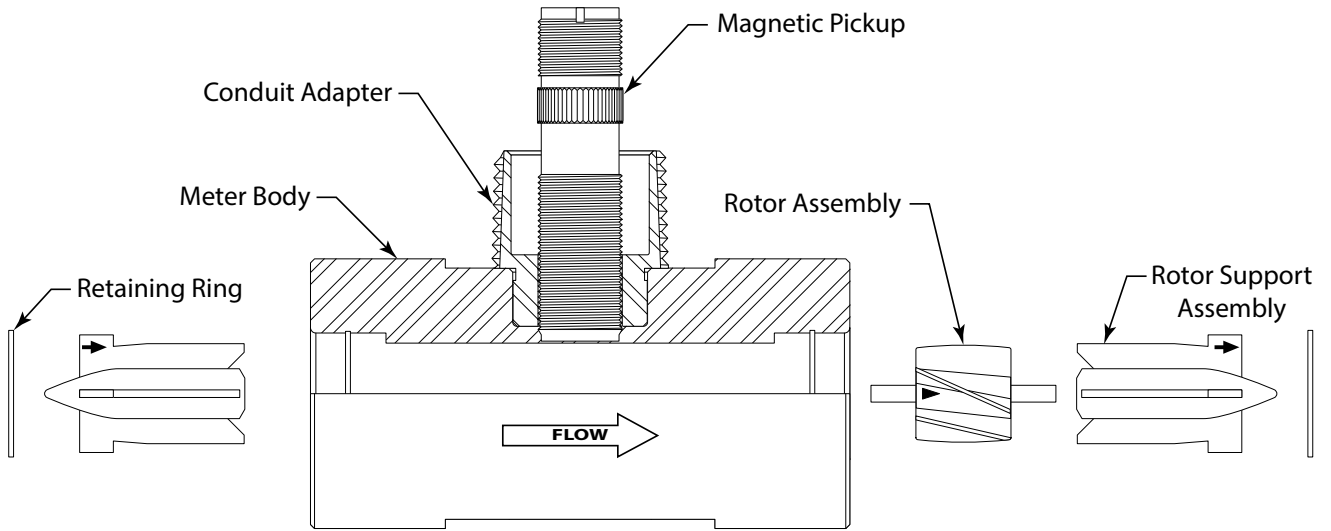
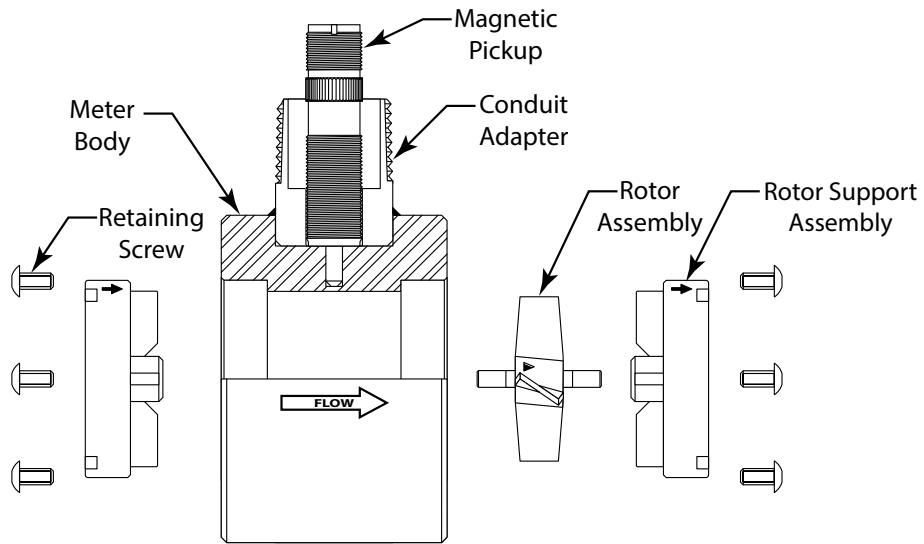

Figure 1: Relative positions of internal components for all QuikSert meter sizes BP131-038 through BP131-100
Figure 2: Relative positions of internal components for all QuikSert meter sizes BP132-050 through BP139-900
1. Refer to *Figure 1* and *Figure 2* for relative positions of repair kit components.
Figure 1 and *Figure 2* show the proper alignment and orientation of the repair kits.
NOTE: Meters 2 inches and larger will have retaining screws on both ends of the meter (see *Figure 2*).
NOTE: Meters 2 inches and larger meters will have retaining screws on both ends of the meter (see *Figure 2*).